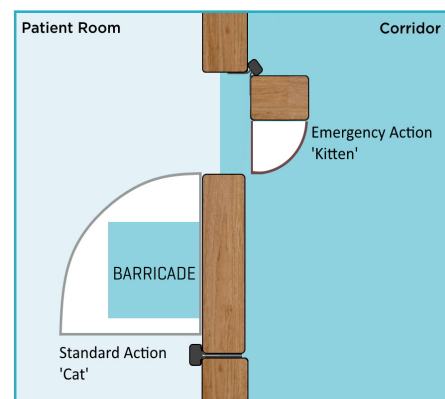

Figure 13.2
- Single Swing Doors** – This is where the larger leaf swings inward and the smaller leaf swings outward, refer figure 13.2. It is important to consider the width of the kitten door when evaluating this option. The smaller leaf is there to allow access during a barricade, however if it is too narrow to allow a staff member to enter safely, it may be ineffective in overcoming the barricade.